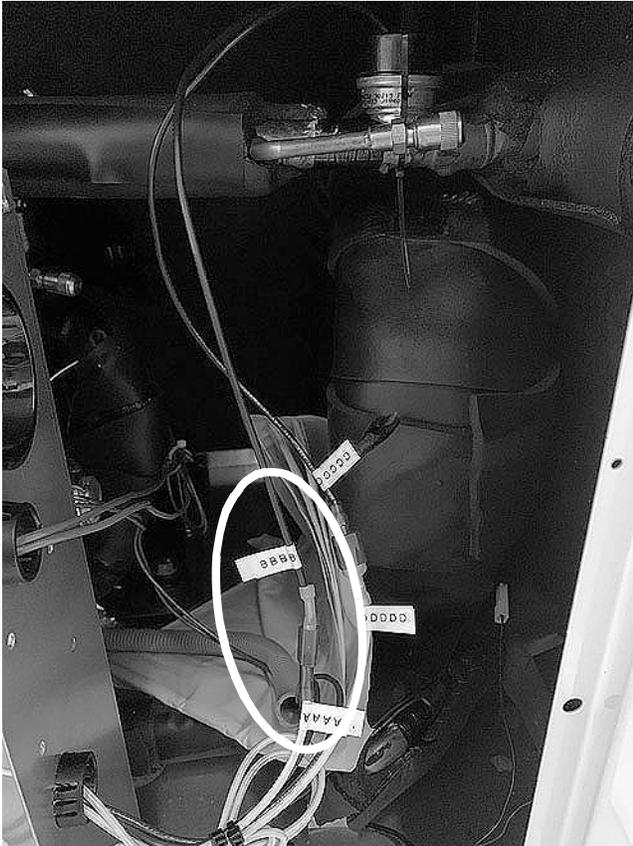

Fig. 14 High Pressure (A) and Freeze Stat (B) Wires
1. Locate the connected High Pressure and Freeze Stat wires labeled A and B, respectively. (See Fig. 14).